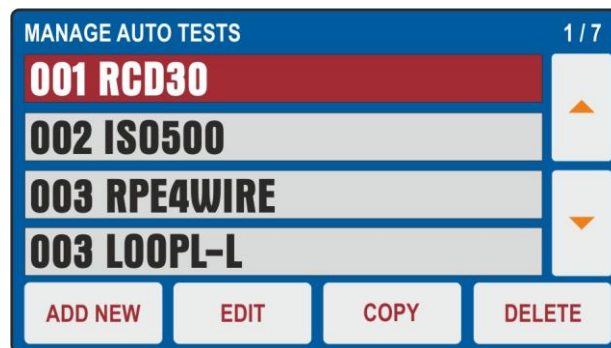

Fig. 18 : AUTOTEST Menu
17. Select an Autotest and tap the **DELETE** button (see Fig. 18). The instrument provides a confirmation message before executing the operation